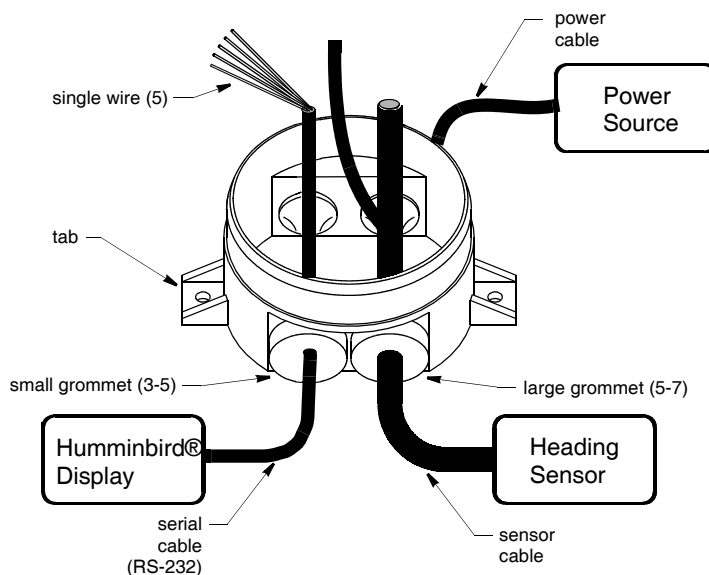

Figure 5. Cables inserted in the Junction box
3. Carefully push approximately 100mm (4") of each cable through the appropriate grommet (see Figure 5). To ease sliding, apply alcohol to the cable jacket.